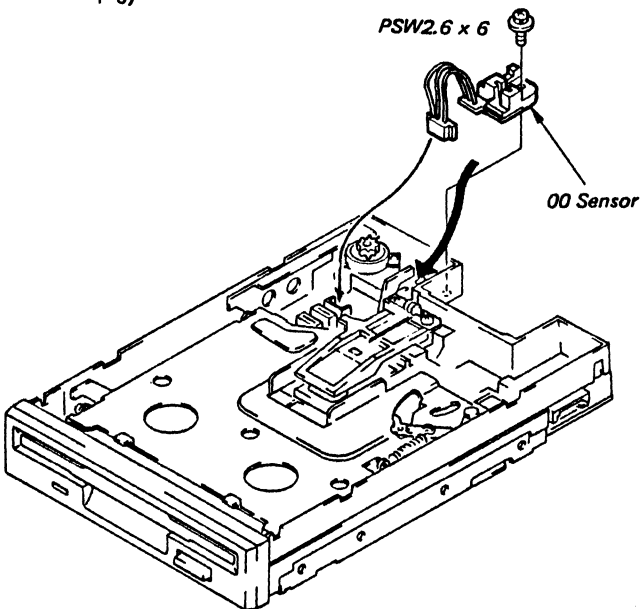

Fig. 4-8 00 Sensor Replacement
- Remove the screw (PSW2.6x6) securing the 00 Sensor and remove 00 Sensor. (Refer to Fig. 4-8)